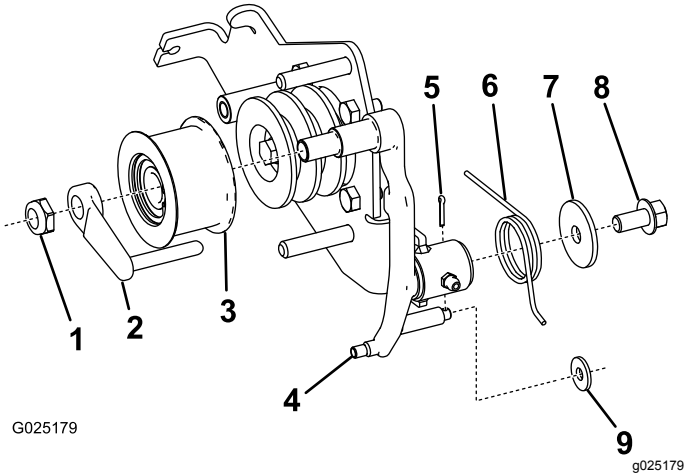

Figure 2
4. Remove the torque spring, washer, bolt, and cable link from the clutch lever (Figure 2).
2. Install the existing torsion spring, washer, and bolt to the new clutch lever (Figure 2).